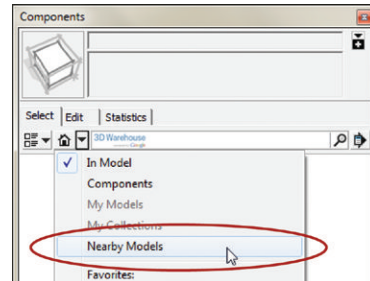

Figure 16.4 The Nearby Models collection is available in the Collections drop-down menu.
2. In the Components browser, click on the Collections drop-down menu and choose Nearby Buildings (Figure 16.4). Remember, this collection is available only after a model has been geo-located.